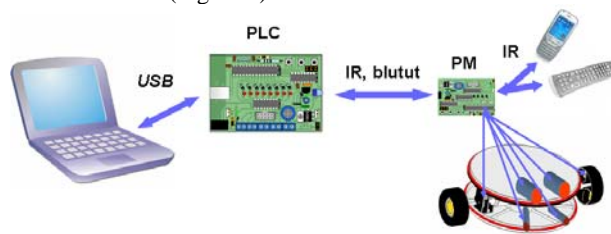

Figure 1. Linking UPLC and communication features PM
Universal design programmable logic controller was a big challenge for our team. The challenge was even greater when we decided that the cost of such devices is below the price of competing products. We have opted for a version that uses infrared communication system with robotized platform. For the purposes of this paper, we designed an additional receiver module (PM), which was developed for the autonomous individual work robotized platform [1], [2]. Entry module was developed as a triangle function in terms of communication (Figure 1).